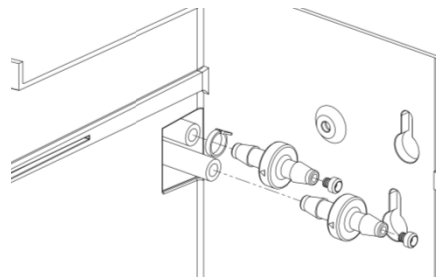

Figure 2
- To install metering tips, locate the correct check valve in each compartment. Identify desired metering tip based on color and dilution rate on the tip chart for bottle and bucket filling (*Figure 2*)